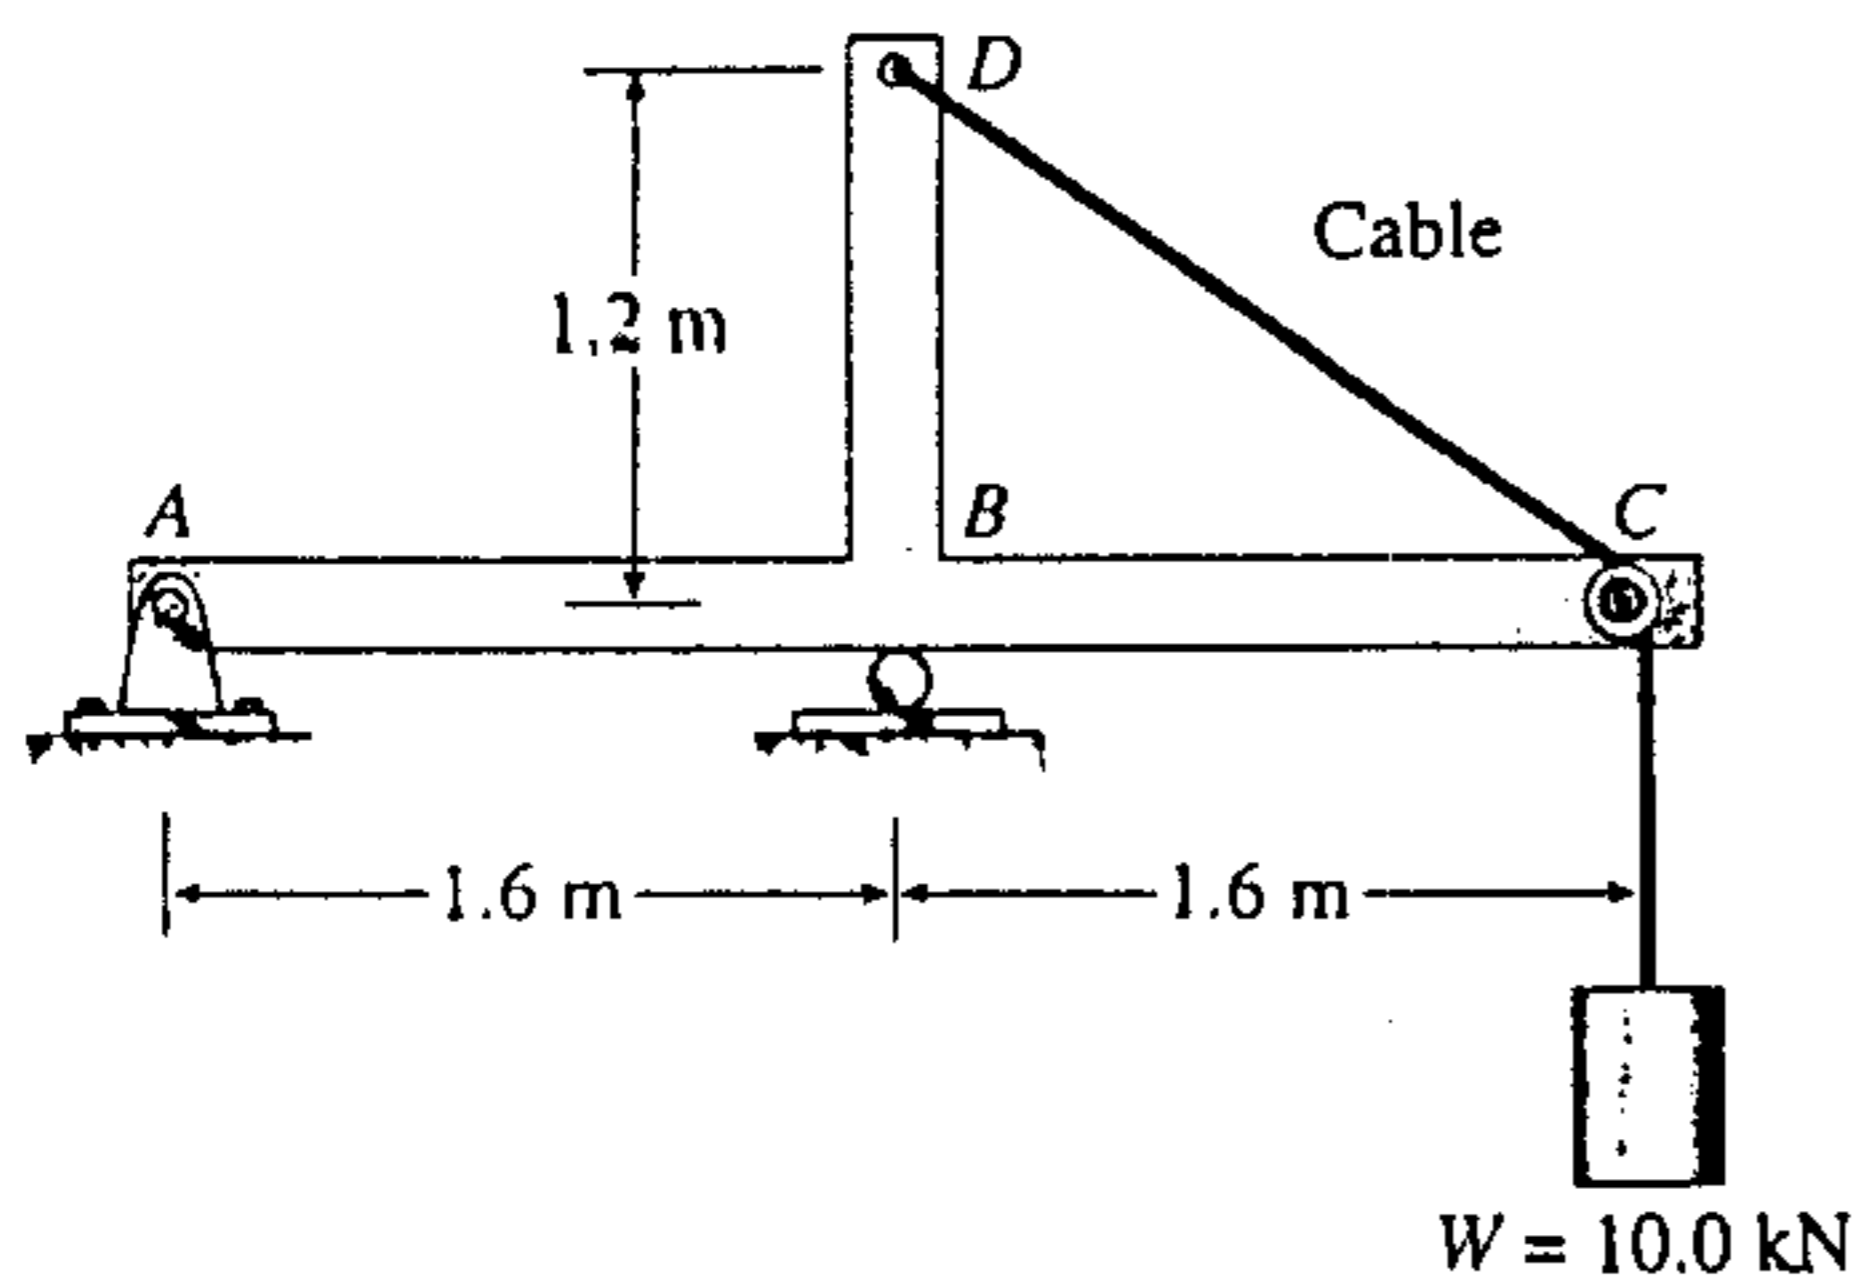

Fig. 1
1. Construct the shear-force and bending-moment diagrams for beam ABC as shown in Figure 1. The beam is loaded by a weight  $W=10.0$  kN applied through a cable. The cable passes over a small frictionless pulley at C and is attached to a vertical arm at D. (25%)